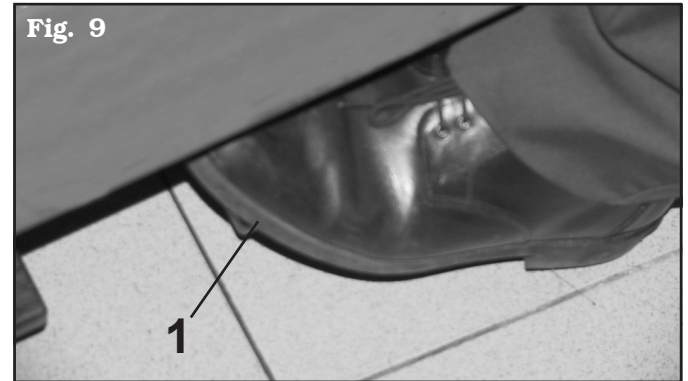

Fig. 9
3 - Push the pedal (Fig. 9 ref. 1) downwards in order to control mandrel's clockwise rotation.